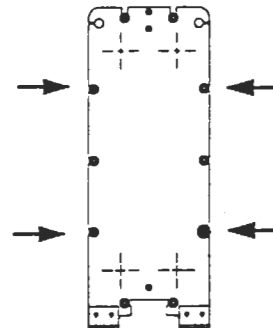

Figure 23
1. Confirm that plates are all installed correctly to the general arrangement drawing. Check the quantity and orientation (alternating left and right). Move the follower toward the fixed head as far as it can go. Install four tie bars as shown in **Figure 23**.